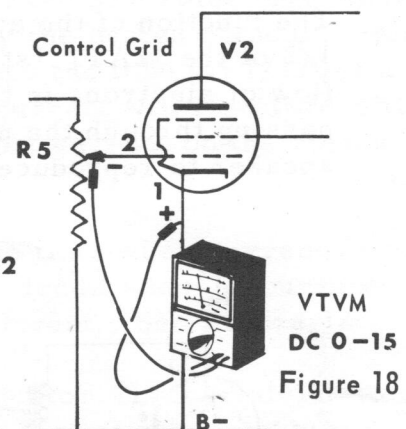

Figure 18
- 8 Connect the negative (-) meter lead to the control grid, pin 2, of the 50C5 tube. Connect the positive (+) meter lead to the cathode, pin 1, of the 50C5 tube. See Figure 18. Adjust the volume control to the extreme clockwise position. Plug the radio into the wall outlet. After sufficient warm-up, record the negative (-) bias voltage on the grid. 4.8 DC volts. Un-plug the radio and remove meter leads.